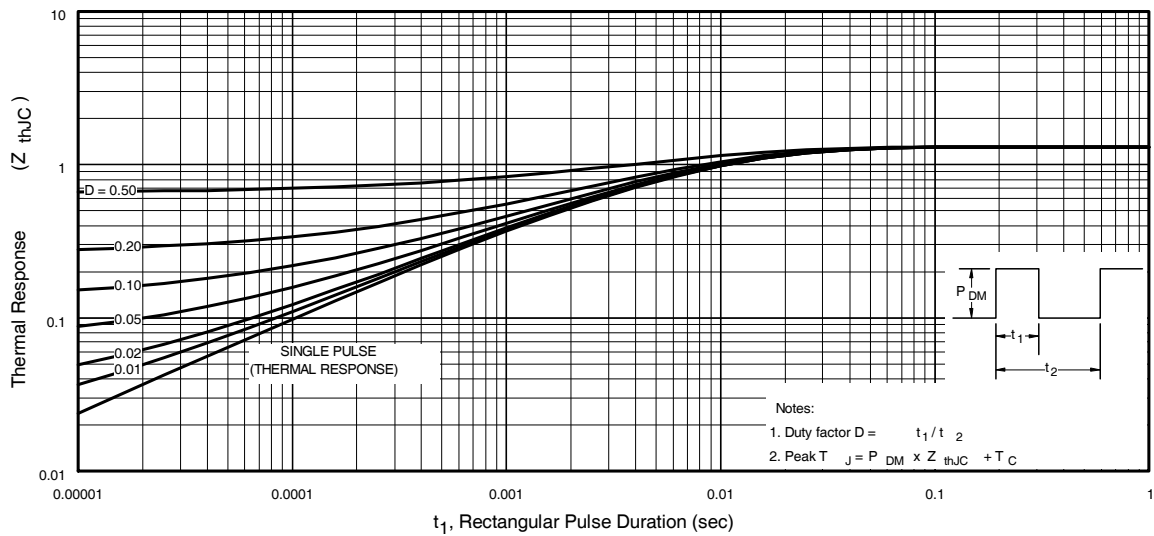
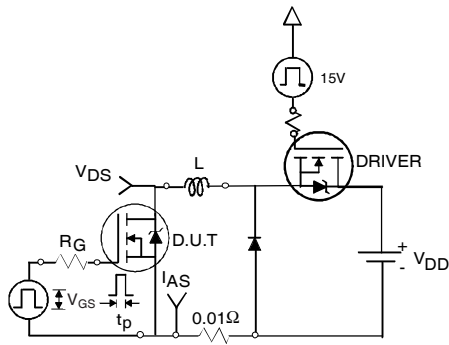

Fig 11. Maximum Effective Transient Thermal Impedance, Junction-to-Case
Fig 12a. Unclamped Inductive Test Circuit
- ① Repetitive rating; pulse width limited by max. junction temperature. (See fig. 11).
- ② Limited by T_{Jmax} , starting $T_J = 25^\circ\text{C}$, $L = 0.45mH, R_G = 25\Omega, I_{AS} = 30A, V_{GS} = 10V$. Part not recommended for use above this value.
- ③ $I_{SD} \leq 30A, di/dt \leq 280A/\mu s, V_{DD} \leq V_{(BR)DSS}, T_J \leq 175^\circ\text{C}$.
- ④ Pulse width $\leq 1.0ms$; duty cycle $\leq 2\%$.
- ⑤ $C_{oss \text{ eff.}}$ is a fixed capacitance that gives the same charging time as C_{oss} while V_{DS} is rising from 0 to 80% V_{DSS} .
- ⑥ Limited by T_{Jmax} , see Fig.12a, 12b, 15, 16 for typical repetitive avalanche performance.
- ⑦ This value determined from sample failure population, starting $T_J = 25^\circ\text{C}, L = 0.45mH, R_G = 25\Omega, I_{AS} = 30A, V_{GS} = 10V$.
- ⑧ When mounted on 1" square PCB (FR-4 or G-10 Material). For recommended footprint and soldering techniques refer to application note #AN-994.
- ⑨ R_θ is measured at T_J of approximately 90°C .
3. Equation below based on circuit and waveforms shown in Figures 12a, 12b.
$Z_{thJC}(D, t_{av})$ = Transient thermal resistance, see figure 11)